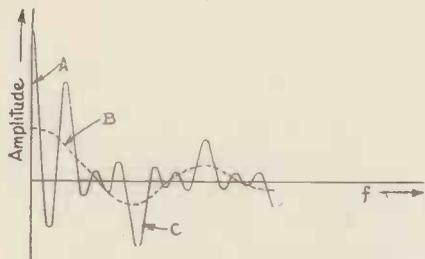

Fig. 13. — Frequency distribution of three pulses of wave shown in Fig. 11.
quency distribution as shown in Fig. 13, which ultimately, in the case of one pulse only, develops into the same curve as that shown in Fig. 8 (August issue), or in the dotted curve of Fig. 13.
sinusoidally-shaped pulses. That part of Fig. 13 marked A would correspond to the transmission of the term  $E/2$  in (8), that marked B to the transmission of